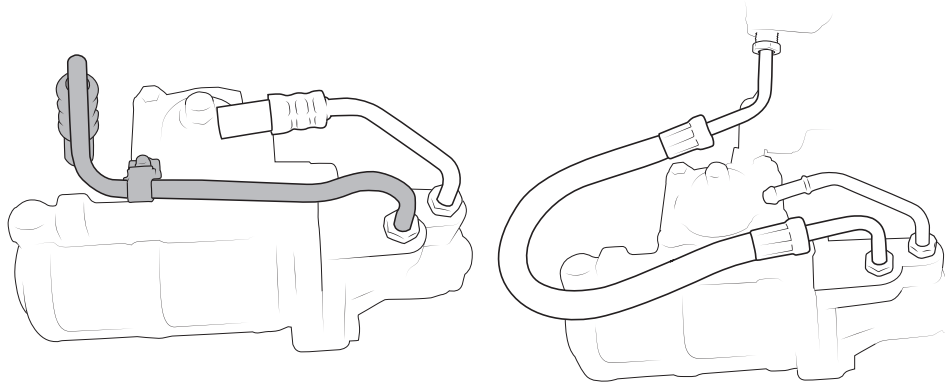

Figure 27: Before and After.
28. Modify the power steering return line to accept the supplied gear to cooler return line (fig 26) and then install on the steering gear (fig 27).
29. Install the supplied power steering pressure line (fig 27).